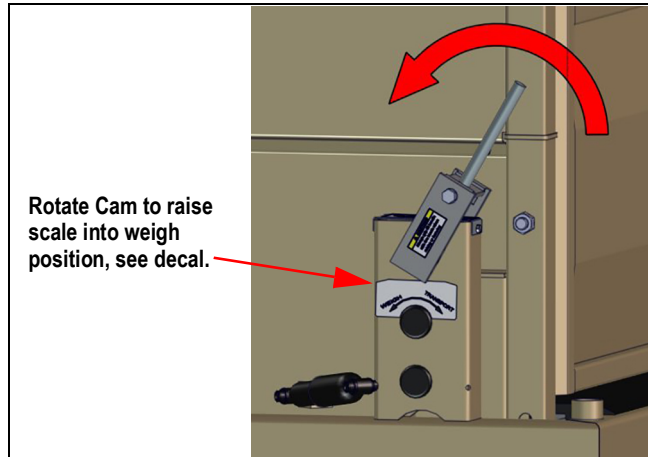

Figure 2-2. Scale Lift
7. Using both hands, raise the platform to enable the scale (Figure 2-2 on page 8). The scale is now ready to weigh.